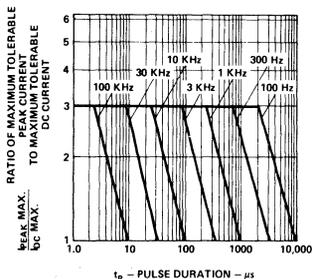

Figure 5. Maximum Tolerable Peak Current vs. Pulse Duration. ( $I_{DC}$  MAX as per MAX Ratings)
- See Figure 5 (Red/Orange), 10 (Yellow) or 15 (Green) to establish pulsed operating conditions.